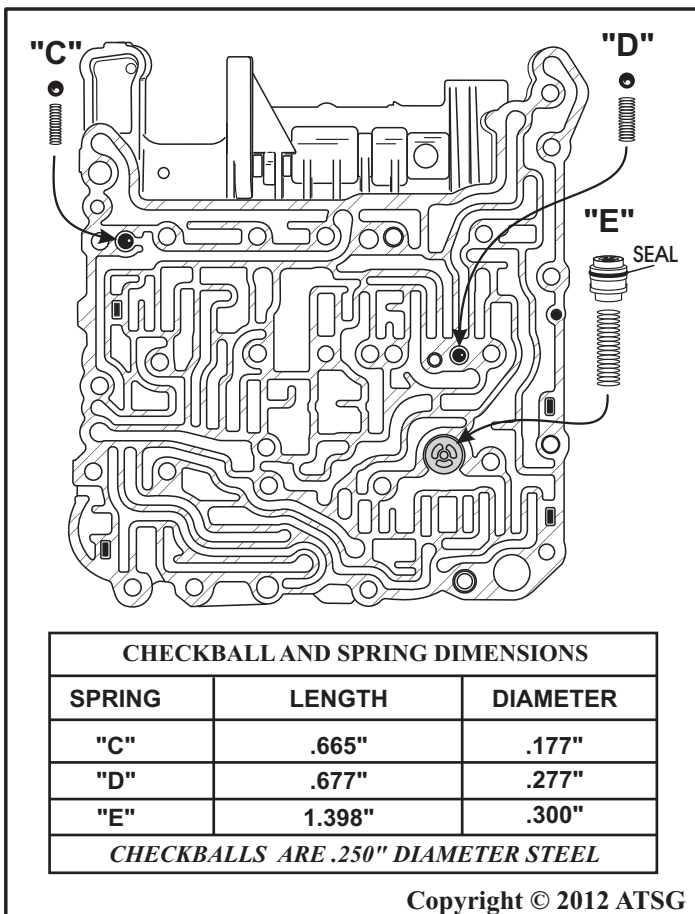

Figure 217
22. Lay the assembled main valve body on a flat work surface, as shown in Figure 217.
23. Install the "C" check ball and spring with the spring going in first, as shown in Figure 217.
24. Install the "D" check ball and spring with the spring going in first, as shown in Figure 217.
25. Install new seal on the damping valve "E" and install assembly with the spring going in first, as shown in Figure 217.
Note: Spring and check ball dimensions are shown in Figure 217.